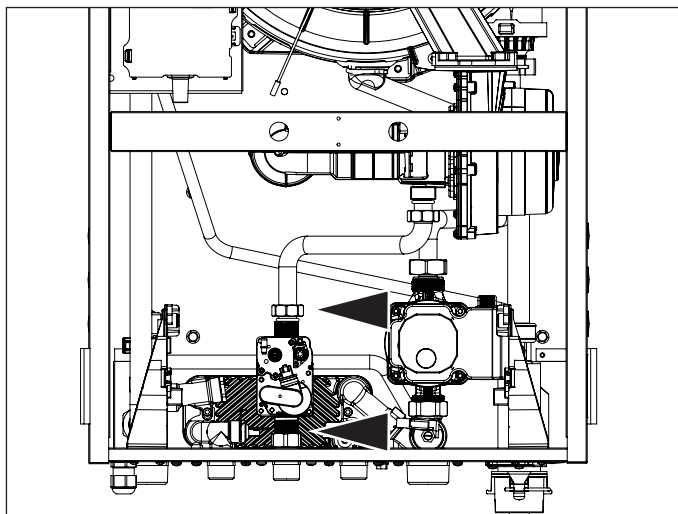

Figure 90 - Remove the Gas Valve
3. Remove the two nuts above and below the gas valve. See Figure 90.